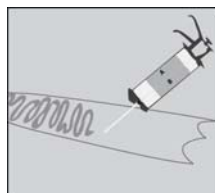
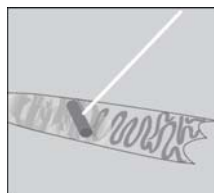

Figure 7:
Figure 8:
5. The amount of sealer in one 300/600 ml cartridge will be sufficient for applying 45 sq. ft. of PreMark[®] material. **Note: It is critical that the sealer does not cure up before the PreMark[®] material has been applied and heated, therefore do not apply sealer to an area larger than what can be heated in 20 minutes.** Holding the tip of the nozzle above the application area, squeeze out an appropriate amount of sealer. *See Figure 7.* Using the roller provided spread out the applied sealer over the selected application area. *See Figure 8.* Do not apply sealer outside the chalk line. The sealer should appear as a light coat of paint, leaving a shiny surface. **Do not wait for the sealer to cure up before applying the PreMark[®] material.**